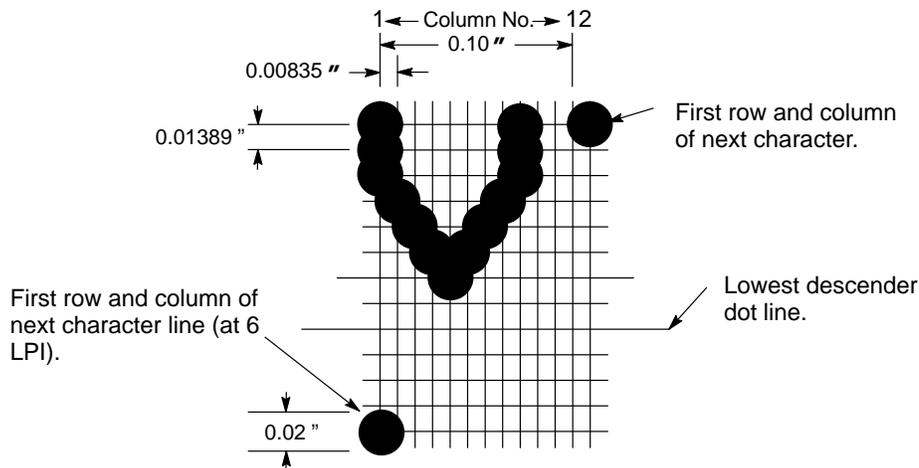

Figure 6–1. A Dot Matrix
Every text character is stored in printer memory as a pattern of dots on a logical grid called the dot matrix. (See Figure 6–1.) The ink dots are made by a row of small hammers mounted on a shuttle that sweeps rapidly back and forth. Printer logic circuits divide every line of incoming data into horizontal dot rows. The hammers put dots at the required positions for the entire line by striking an inked ribbon and the paper.
The dot matrix patterns of text characters vary according to the font the user selects. For example, in the data processing (DP) font at a line spacing of six lines per inch (lpi), a dot matrix contains 12 dot rows from the top of one character line to the top of the next. (See Figure 6–1 and Figure 6–2.) At eight lpi there are nine dot rows per character line, at nine lpi eight dot rows per character line, and so on.